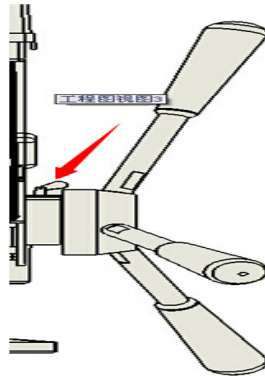

Figure 13
Step 14 Release the positioning knob on the dial. .Figure 13